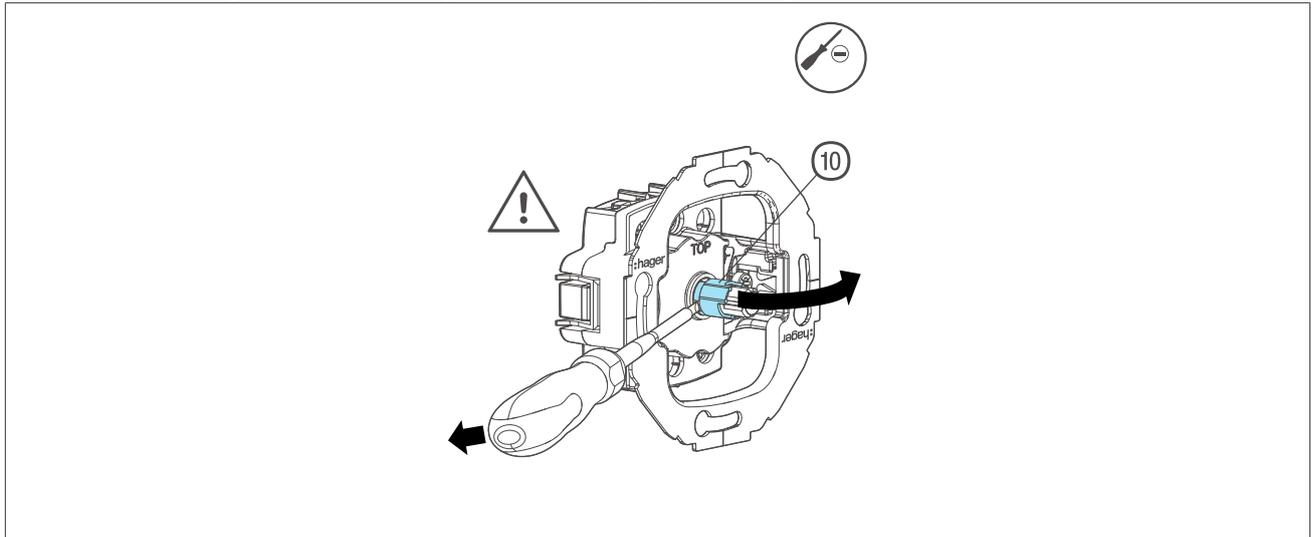

Fig. 4: Removing the centring sleeve
**The centring sleeve (10) is still attached to the rotary axis of the switch.**
- 💡 – Loosen and remove the centring sleeve on the rotary axis (Fig. 4).